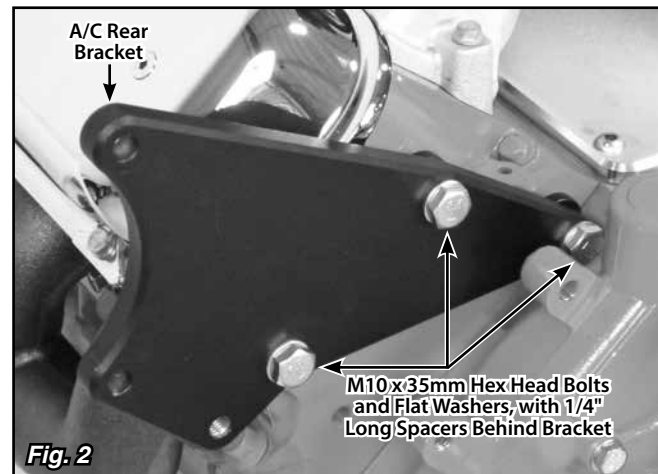

Fig. 2
Step 1: Hold the A/C rear bracket in the position shown in Fig. 2. Install an M10 x 35mm hex head bolt with flat washer into each of the three bolt holes in the bracket that line up with the bolt holes in the passenger side cylinder head. Place a 1/4" long spacer onto each of the bolts, using the spacer with the larger inside diameter on the bolt that will be behind the water pump inlet.